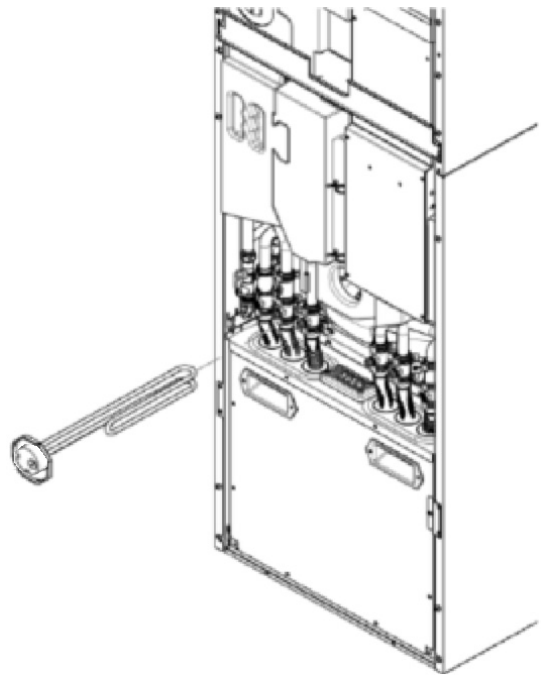

Fig. 80: Remove Immersion
6. Using an appropriately sized box spanner remove the immersion assembly and remove from the cylinder. See Fig. 80.